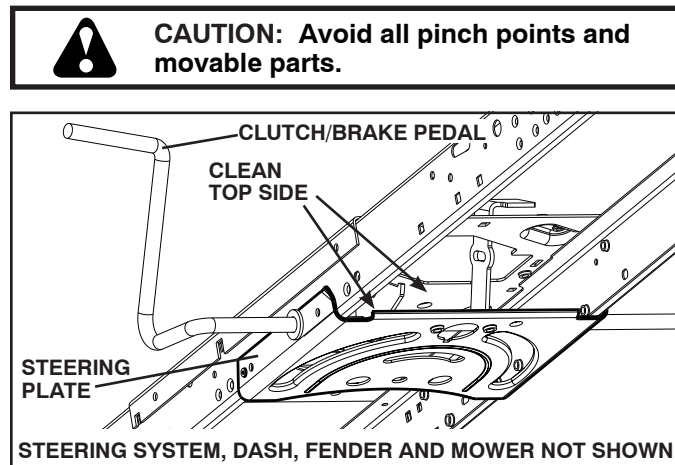

Fig. 18
- Clean debris from steering plate. Debris can restrict clutch/brake pedal shaft movement, causing belt slip and loss of drive. See Fig. 18.